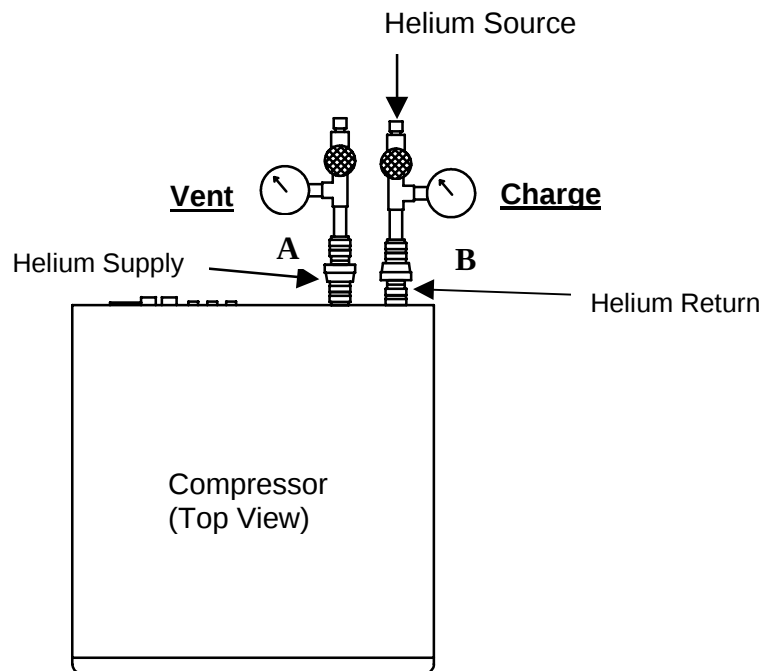

Figure 12: Compressor Pump and Purge
7.1. Connect the Vent Manifold (adapter with male aeroquip) to the Helium Supply Port (A) on the compressor as shown in Figure 12.
7.3. Connect the Charge Manifold to the Helium Return Port (B) as shown in Figure 12.